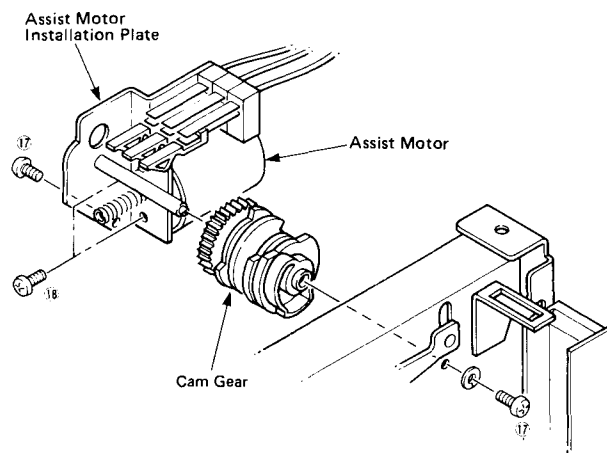

Fig. 10
- Remove 2 screws ⑰ in Fig. 10 and remove the assist motor installation plate.
- Remove 2 screws ⑱ in Fig. 10 and replace the assist motor.